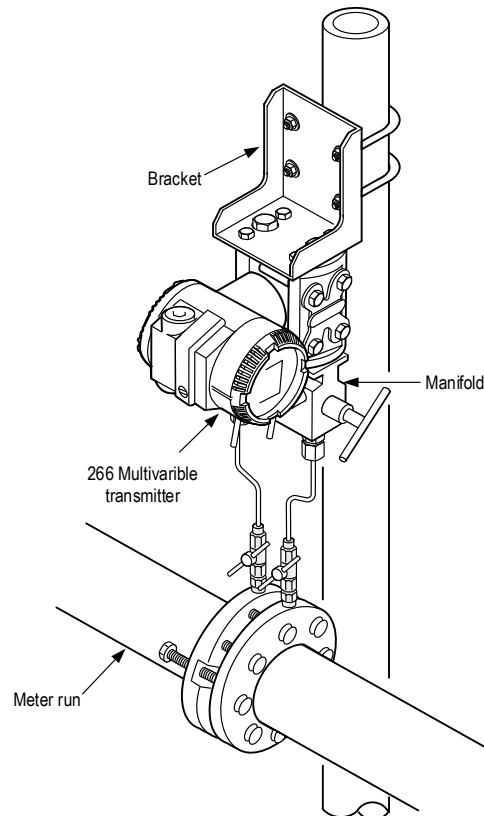

Figure 17: Horizontal flange assembly, pipe-mounted
5. Attach the transmitter to the underside of the bracket, using four bolts (Figure 17).